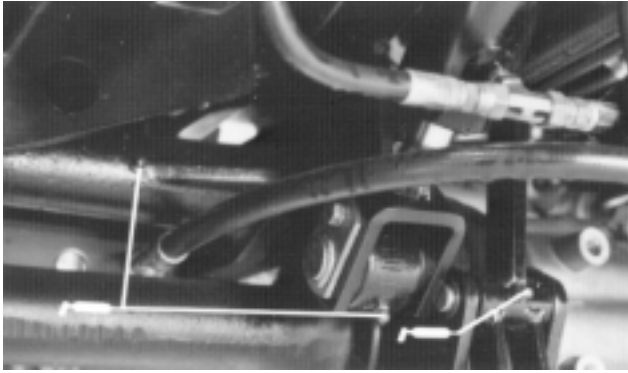
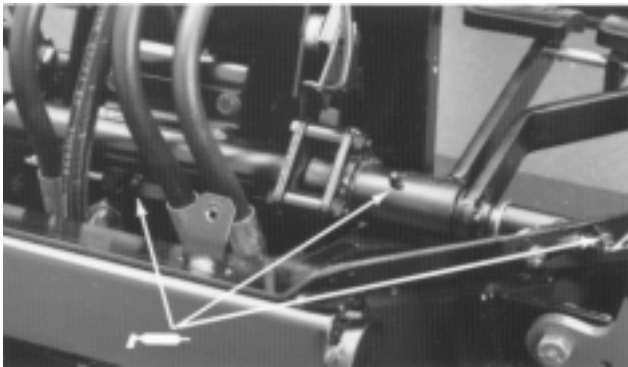
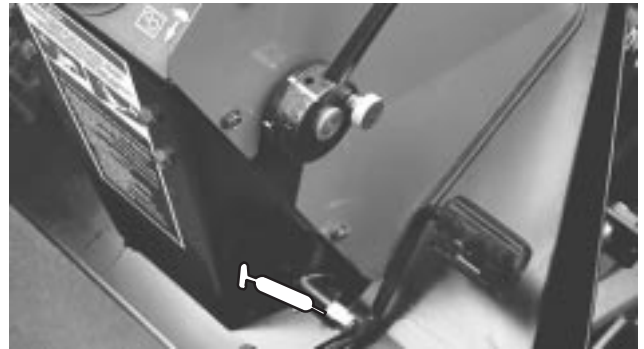
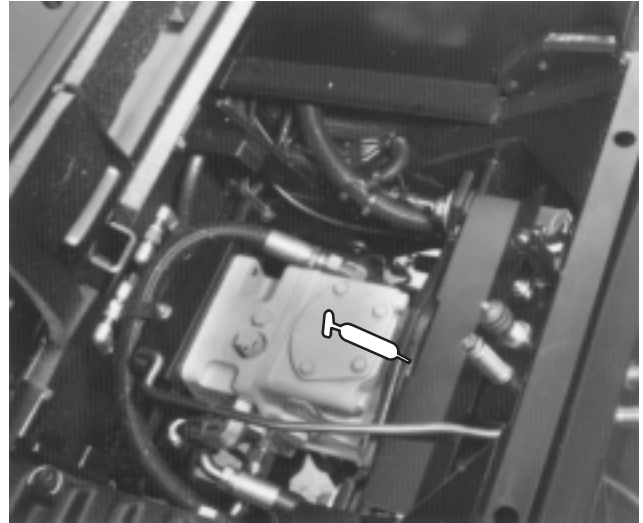

Figure 17
Figure 18
Figure 19
Figure 20
GREASING (Fig. 17–25)
1. The grease fittings that must be lubricated are: Lift arm pivot (2), lift cylinder (4), brake arm pivots (2) (Fig. 17); brake pivot (1), brake pivots (2) (Fig. 18); traction pedal pivot (1) (Fig. 19); engine to pump drive shaft (2) (Fig. 20 & 21); traction adjuster (1) (Fig. 22); P.T.O. Bearing (Fig. 23); center pivot (1) (Fig. 24); tie rod assembly (2), axle knuckles (2) cylinder ends (2) (Fig. 25).